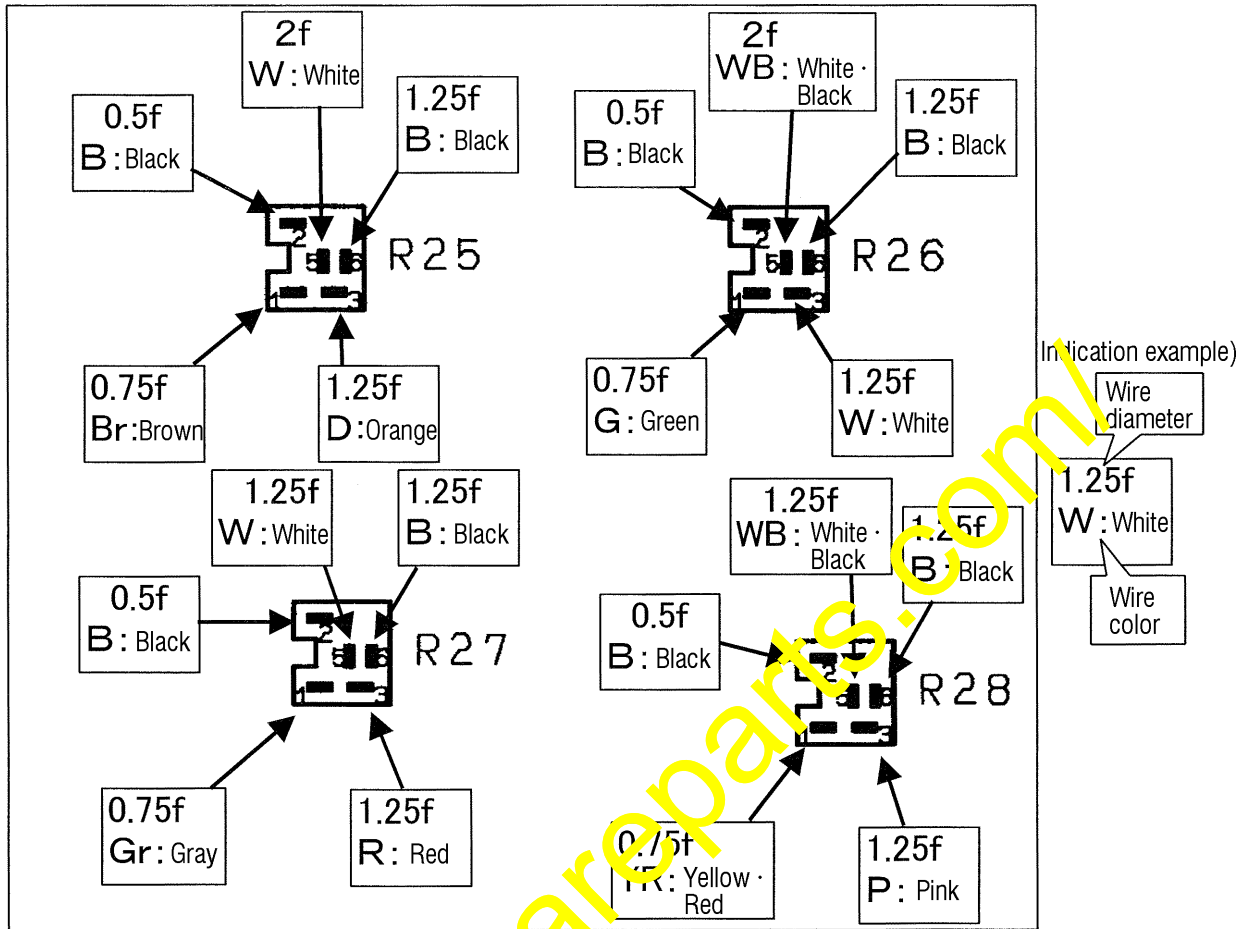
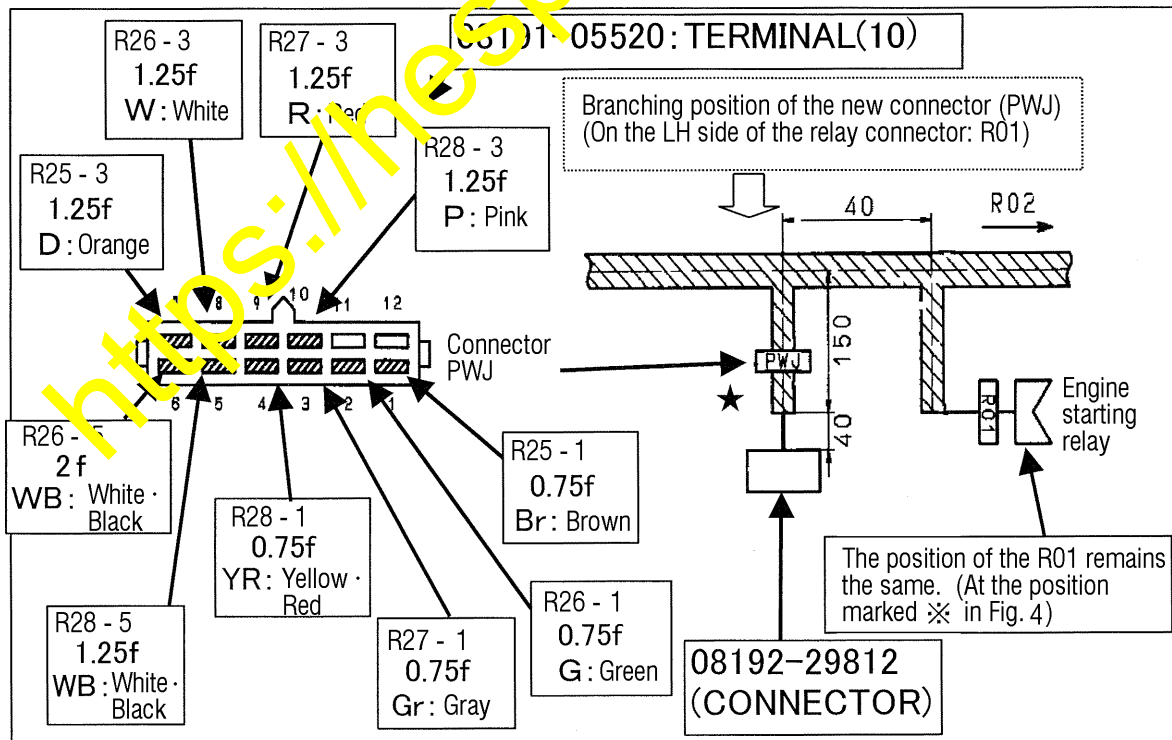

Fig. 6
Fig. 7
(The section marked ★ in Fig. 7).
- (i) Connect the leads of the relay connectors (R25 through R28) (Refer to Fig. 6) to the centralized connector (PWJ). (Refer to Fig. 7.)
(Refer to Fig. 7.)